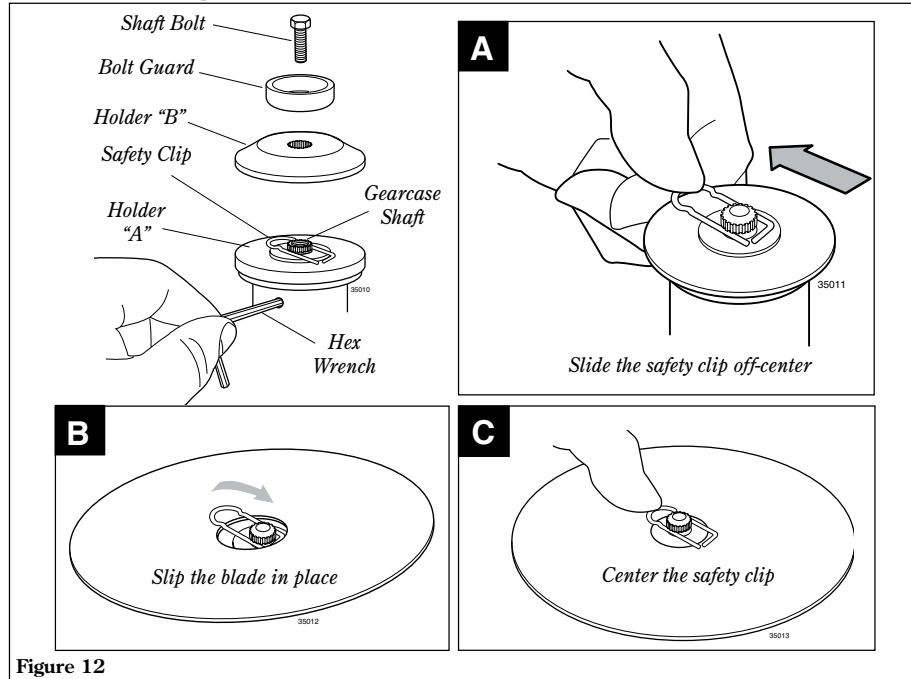

Figure 12
1. With the gearcase output shaft facing up, rotate the gearshaft and holder "A" until the hole in holder "A" aligns with the matching hole in the gearcase flange, and then lock the holder to the gearcase by inserting the long end of the hex wrench through both holes. See Figure 12.
2. Remove the shaft bolt, bolt guard and holder B. See Figure 12.
3. Slide the safety clip off center on the gearcase shaft. See Figure 12-A.
4. Slide the blade over the safety clip and onto the flange on Holder "A." See Figure 12-B
5. Lock the blade on the shaft by centering the safety clip. See Figure 12-C.